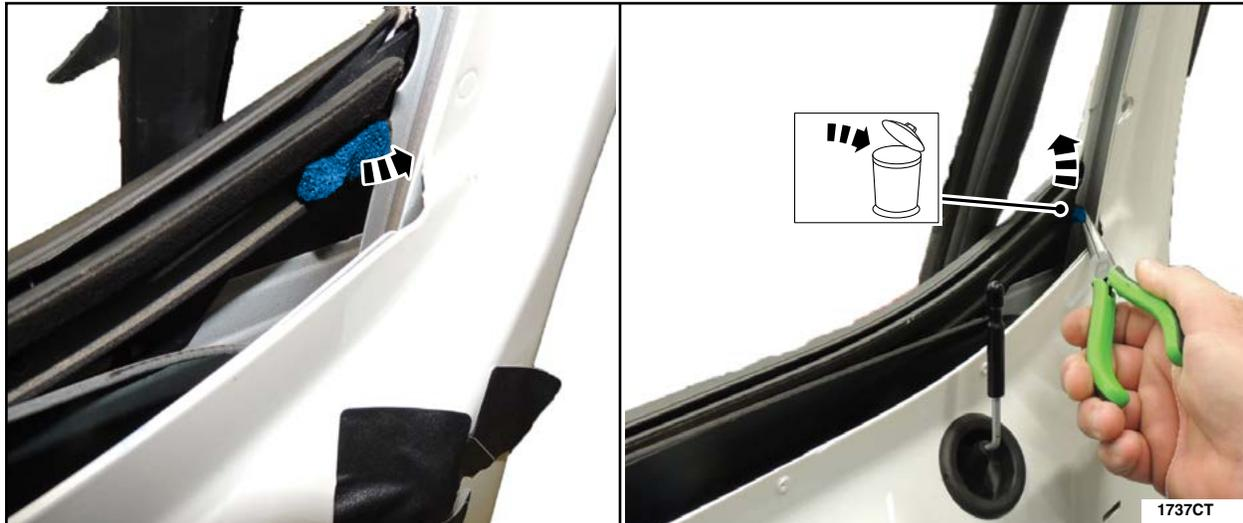

FIGURE 67
10. If present, remove and discard the foam on the door outer belt moulding at the location shown in Figure 67.